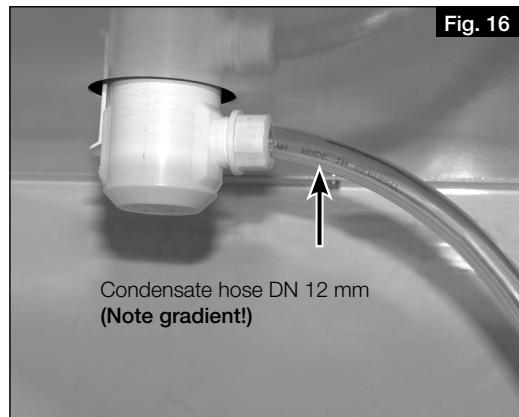

Fig. 16
6. Connect condensate hose (length max. 1.5 m) to the building drainage system (see Fig. 16).